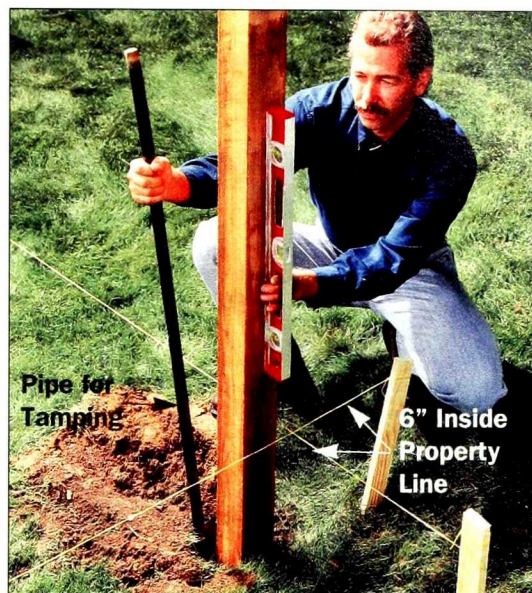

Figure 2: Tamp 6 to 8 inches of dirt around the corner posts, doing an inch or two at a time. Make sure the post is plumb and the right height.
- Remember that a fence like this one, with pre-cut decorative post tops, must have the posts set to the right height. Adjust the posts so they're the right height above the ground, either by tamping extra dirt at the bottom of the hole or by deepening the hole. Posts without pre-cut decoration can be set extra high and trimmed after the stringers are nailed on. When a post is the right height, tamp 6 to 8 inches of dirt around the base to keep the post plumb (straight up and down) in both directions (Figure 2). Tamping dirt is a simple activity, but it takes a little practice to get it right. Do an